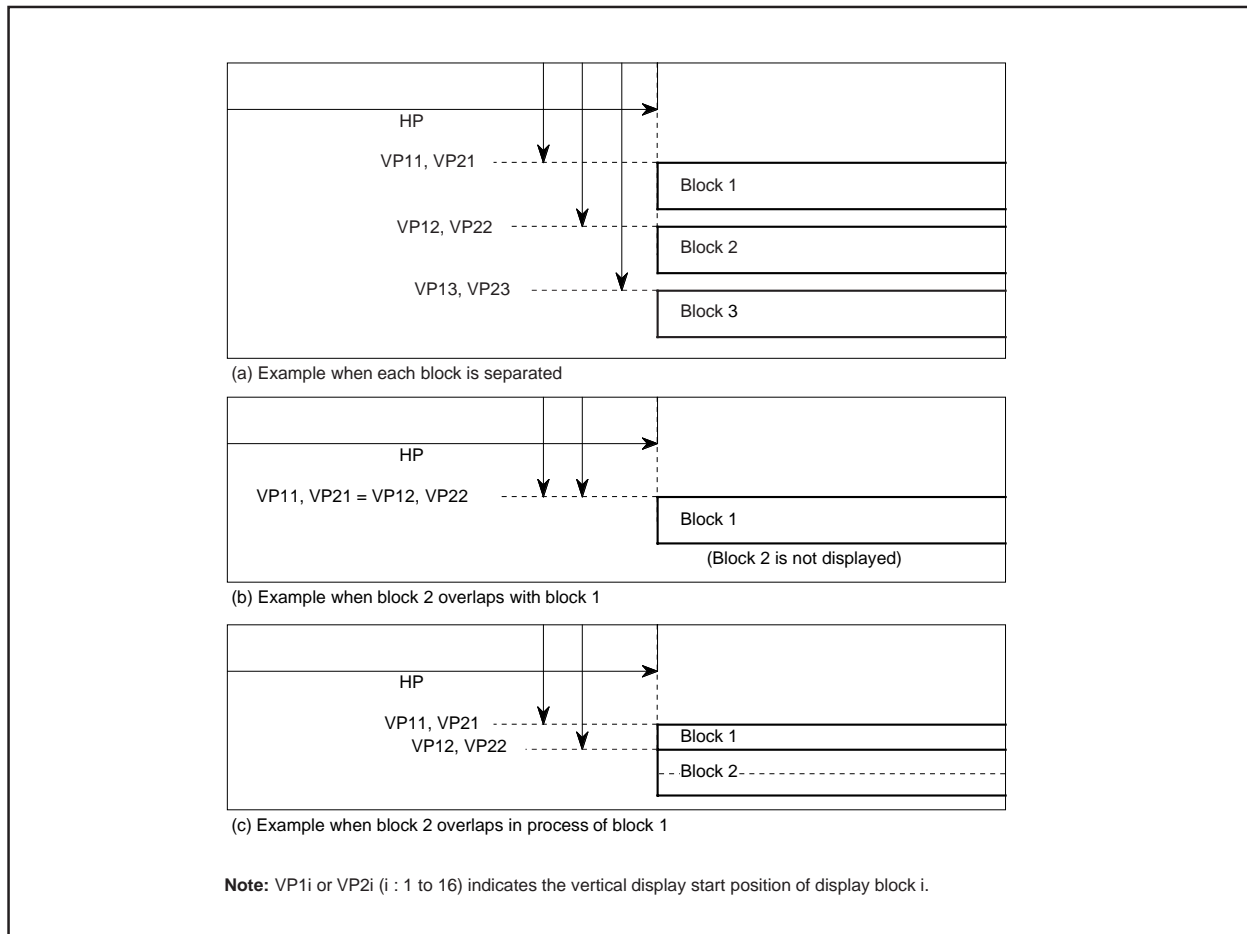

Fig. 12.11.8 Display Position
- When the display position is overlapped with another block (Figure 12.11.8 (b)), a lower block number (1 to 16) is displayed on the front.
- When another block display position appears while one block is displayed (Figure 12.11.8 (c)), the block with a larger set value as the vertical display start position is displayed. However, do not display block with the dot size of 2T_C × 2H or 3T_C × 3H during display period (*) of another block.